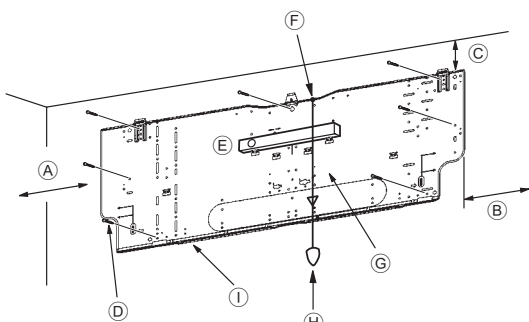
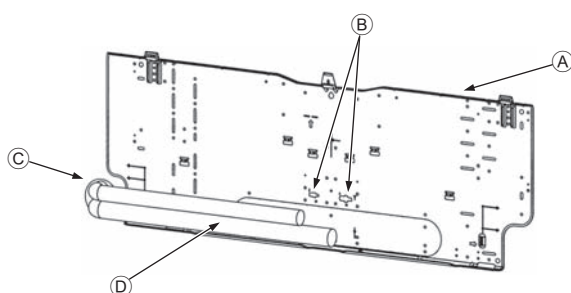

Fig. 3-4
Fig. 3-5
■ PKFY-P-VKM-E (Fig. 3-4)
- Ⓓ Fixing screws (4 × 25) ②
- Ⓘ Mount board ①
3.3. When embedding pipes into the wall (Fig. 3-5)
- Ⓐ Mount board ①